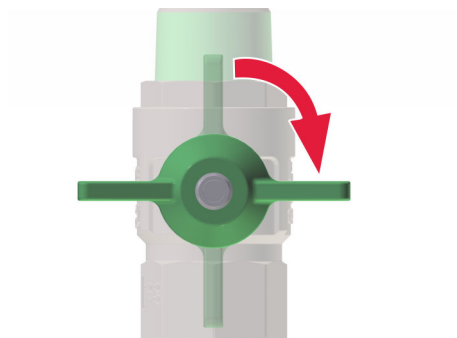

Fig. 25: Close the main shut off valves
1. ➔ Close all main shut off valves (Fig. 25) on the fresh hot water station.